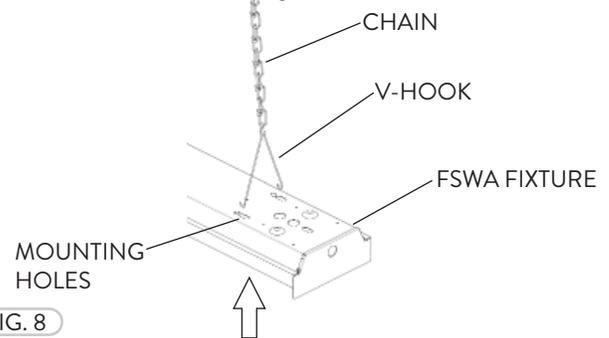

FIG. 8
- 3 Attach the V-Hook to one side of FSWA fixture, then attach the V-Hook to the other side (Fig. 8).